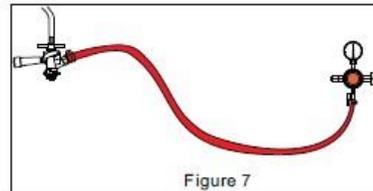

Figure 7
- b. Connect the ends of the red CO₂ tube respectively to the CO₂ intake port of the mixed ball valve and the round outlet of the CO₂ regulator valve. Lock these connections firmly with the two clamps on the red CO₂ tube (See Figure 7).